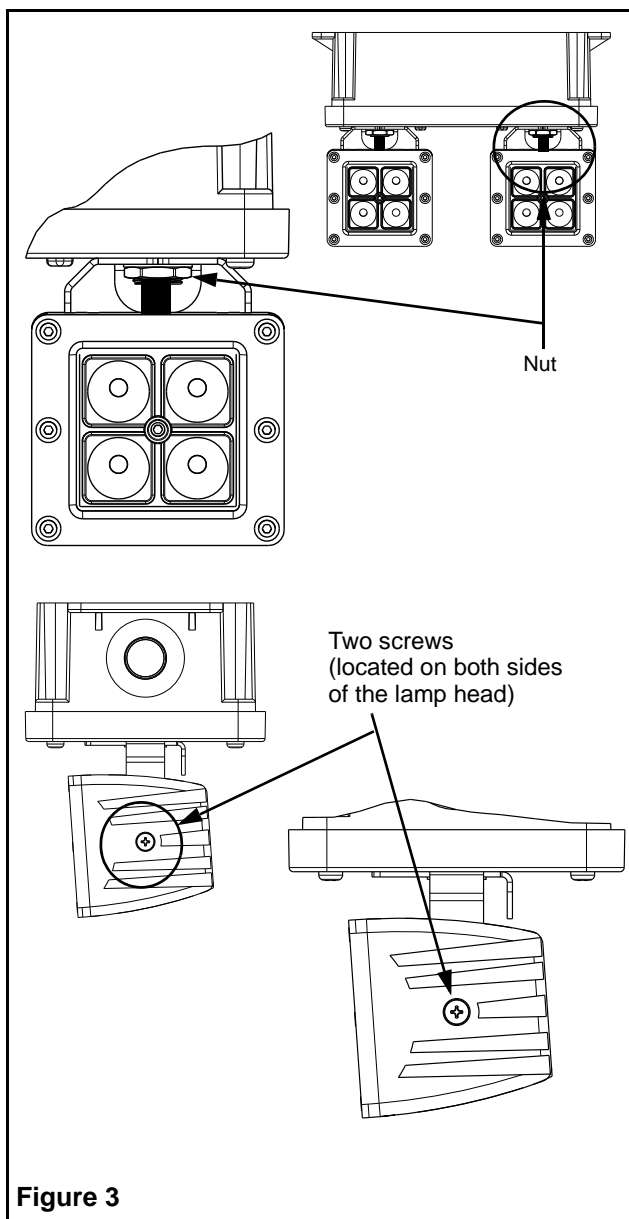

Figure 3
- If the lamp heads become loose: tighten the screws located on each side of the lamp heads and the nut located at the base of the bracket (See figure 3).